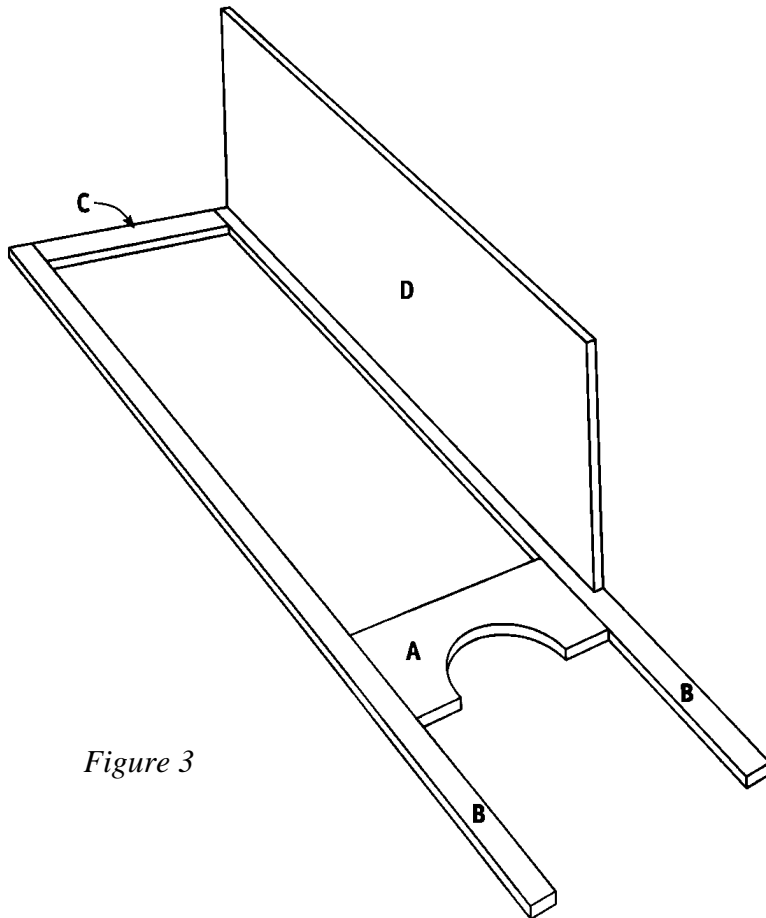

Figure 3
1. Cut one Back (D) from $\frac{3}{4}$ " plywood, measuring 29 x 13-1/2 inches.
2. Place the Back (D) on a flat surface. Place one assembled side on edge, flush against one 29-inch-long edge of the Back (D), as shown in *Figure 3*. Apply glue to the meeting surfaces, and nail through the Vertical Side (B) into the edge of the Back (D), using 1-1/2" nails spaced about every 5 inches.